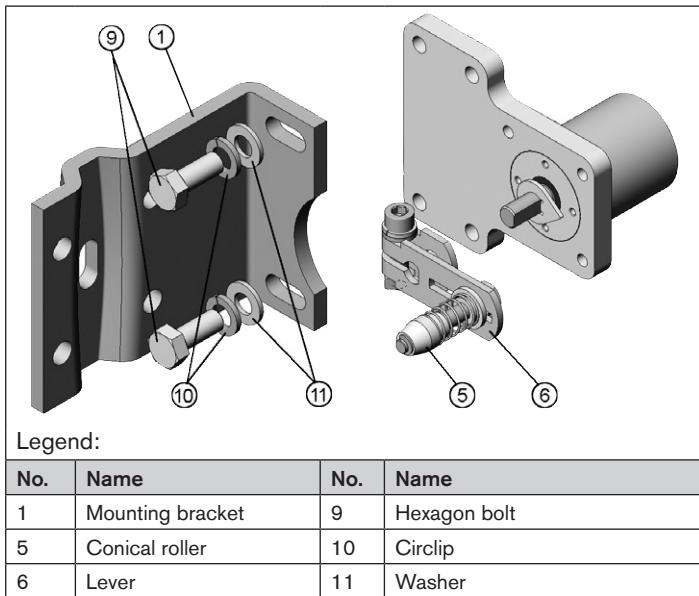

Fig. 28: Attachment to a proportional valve with push drives according to NAMUR
- Attach mounting bracket ① with hexagon bolts ⑨, circlips ⑩ and washers ⑪ to the support plate of the Remote Sensor (refer to "Fig. 28").